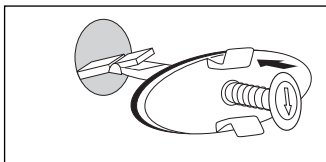

Fig. 2
- Guide it into the overflow. As soon as the locking lever hits against the rear wall, it opens itself out (Fig. 2).